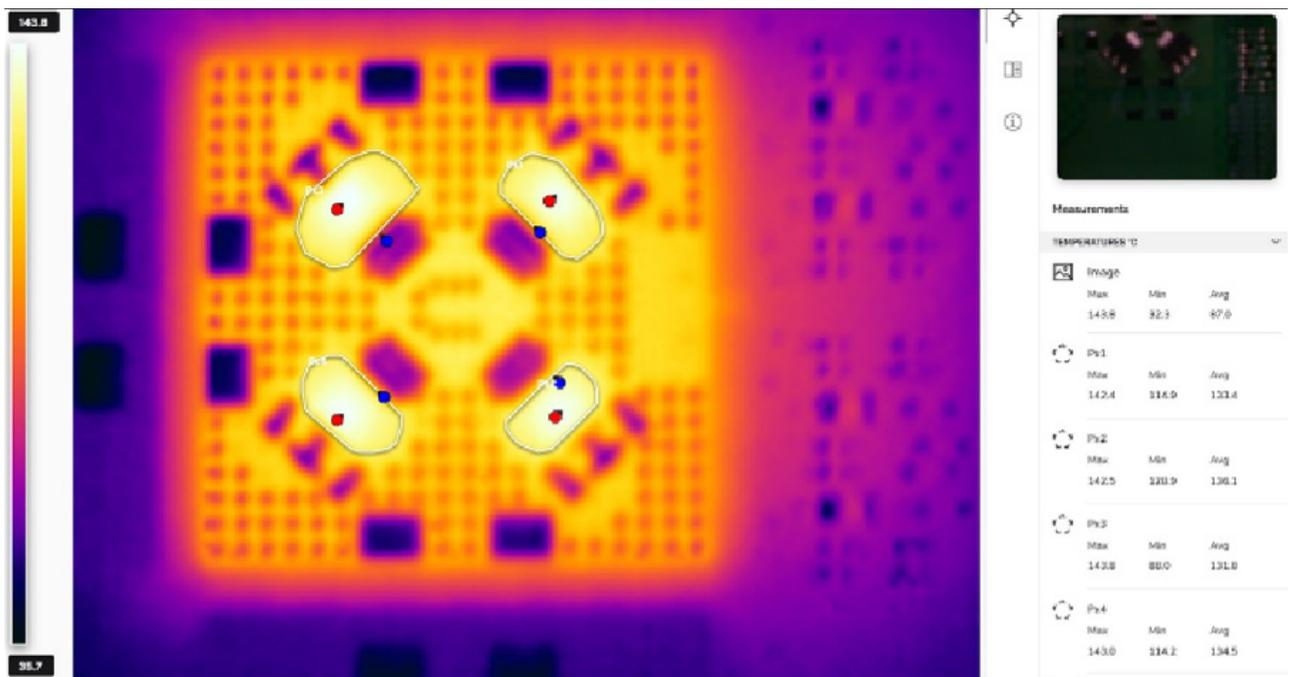

Figure 4. FR-4 FLIR test results.
To instill confidence in the experimental results, thermal measurements were obtained using both infrared (IR) thermography and direct-contact thermocouples, allowing cross-validation of the observed temperature trends. The FLIR infrared camera provided noncontact, spatially resolved temperature data across the test vehicles, enabling consistent identification of peak component temperatures during both transient heating and near-steady-state conditions (**Figures 4 and 5**). To verify the accuracy of these measurements, K-type thermocouples were attached directly to selected power transistors and logged simultaneously with IR data under identical power-cycling conditions. This dual-measurement approach ensured that observed temperature differences between materials and test configurations were not artifacts of a single measurement technique.